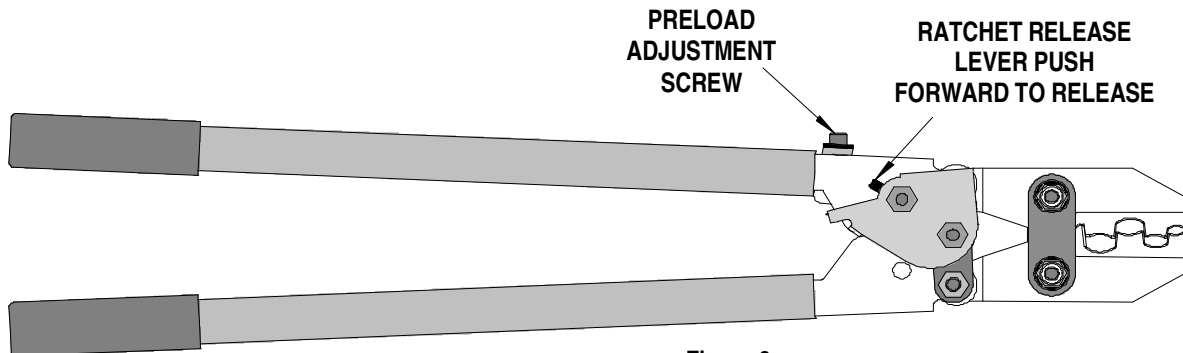

Figure 6
3. Make certain all pins; pivot points and bearing surfaces are protected with a thin coat of high quality machine oil. Do not oil excessively. This hand tool was engineered for durability, but like any fine piece of equipment, it needs cleaning and lubrication for a maximum service life of trouble-free crimping. A light oil, such as 30 weight automotive oil used at the oil points shown in Figure 6, every 5,000 crimps or 3 months will significantly enhance the tool life and ensure a stable calibration.
Should this tool ever become stuck or jammed in a partially closed position, **Do Not** force the handles open or closed. The tool will open easily by pushing the ratchet release lever forward. See Figure 6.
How to Adjust Tool Preload (See Figure 6 and 7)